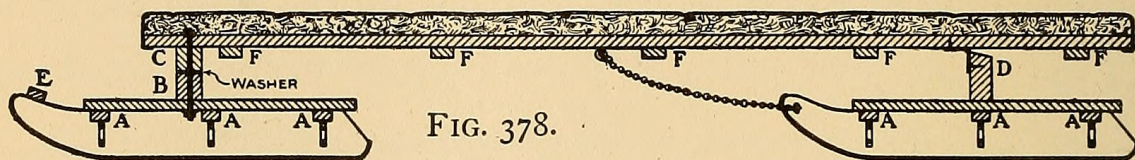

FIG. 378.
**For connecting the Runners** and bracing them, cut six cleats  $1\frac{1}{4}$  inches thick, 2 inches wide, and 10 inches long (*A*, Figs. 376 and 378), and buy twelve 2-by-2-inch iron angle-braces, such as are shown in Fig. 377, at a hardware store. Nail the runners to the ends of the cleats, using three cleats for each sled and spacing them as shown in Fig. 378, and then screw the angle-braces to the runners and to the cleats (Figs. 376 and 378). Cut